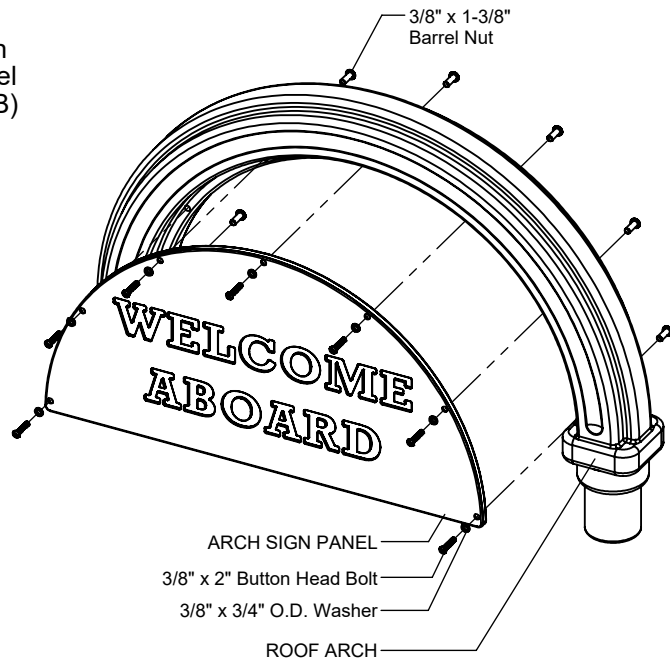

FIGURE 2
Using Arch Sign Panel match drill (7) Ø1/2" holes in Roof Arch for Strap Toggles. Attach Arch Sign Panel to Roof Arch as shown in Figure 2. (See Note A & B)